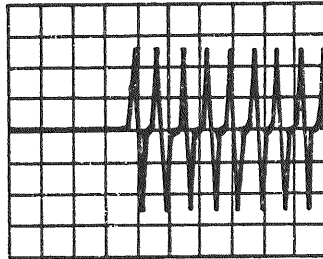

Figure 4-3. Index/Azimuth Alignment Waveform
- 7) Measure the time between the leading edge of the index pulse and the first peak of the index alignment burst (see Figure 4-3). The time should be between 100 and 300 microseconds. If the time is not in that range, adjust the index alignment (see Paragraph d). Note the measured value, and then proceed to Paragraph e.